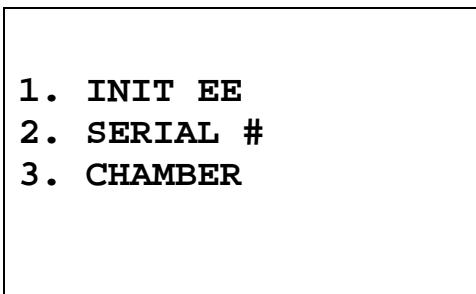
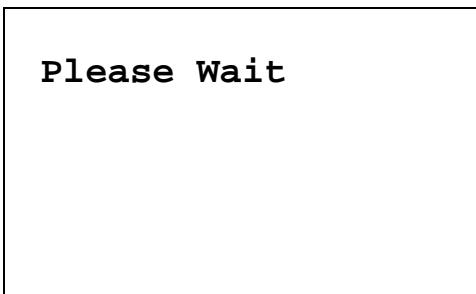

Figure 15-10
Figure 15-11
- e. Press **ENTER**. The display will appear as illustrated in Figure 15-10.
- f. Press **1** to select *INIT EE* to initialize the system. Figure 15-11 will appear for several seconds. After the program initialization is complete, Figure 15-10 will re-appear.
- j. Press **9(YES)** to answer yes to the new serial number. Figure 15-10 will re-appear.